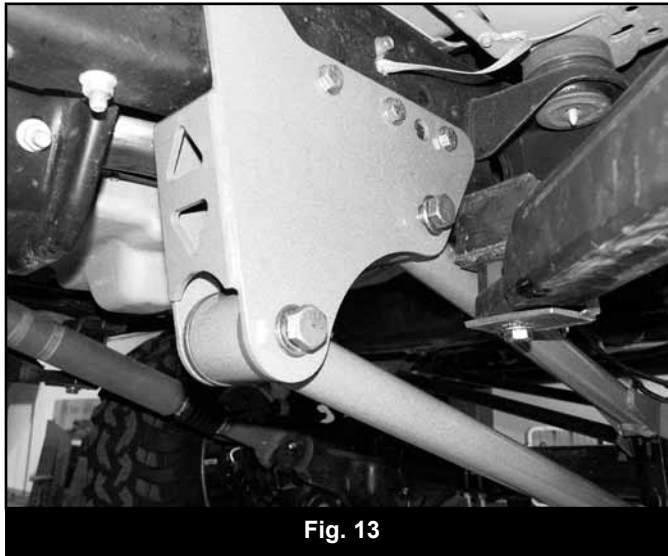

Fig. 13
40. Install the assembled upper control arm in the new frame bracket and fasten with a $\frac{3}{4}$ " x 5-1/2" bolt, nut and $\frac{3}{4}$ " SAE flat washers from bolt pack #432. The two tabs on the control arm go up. Leave hardware loose. (Fig. 13)